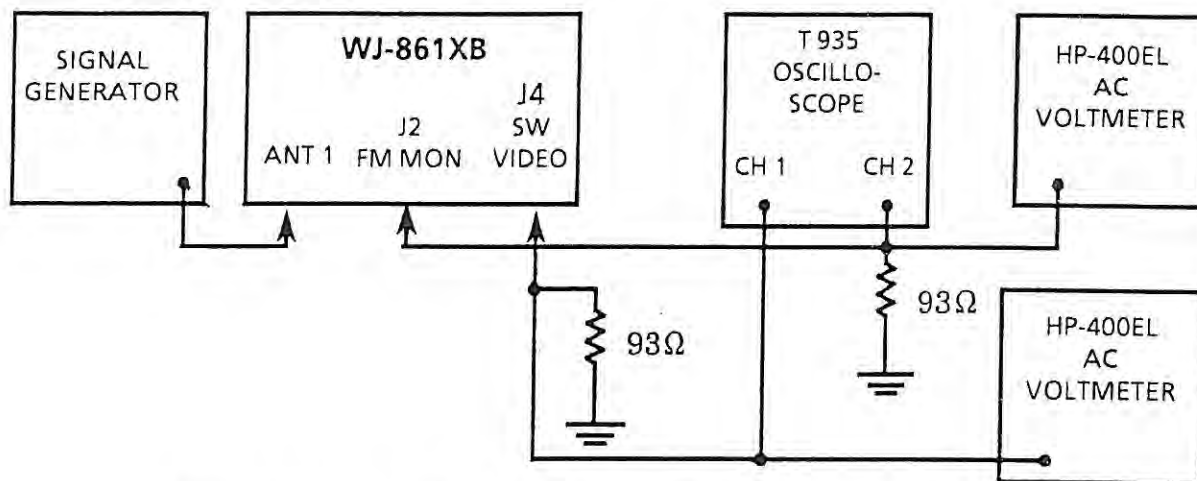

Figure H-4. Audio/Video/COR Alignment, Equipment Connections
2. Connect the test equipment as illustrated in Figure H-4.